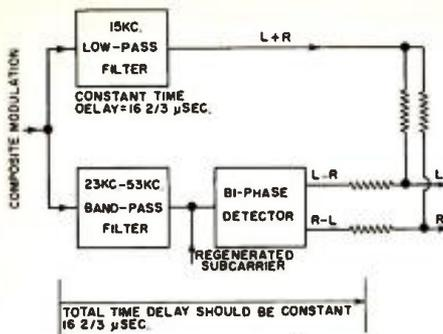

Fig. 9. Sum and difference matrix system.
To matrix properly, sum and difference signals must be kept in the correct phase relationship at all audio frequencies. Assuming the transmitter does its part of the job correctly, the receiver must separate sum from difference modulation, demodulate the difference, and then recombine the two, without introducing any time difference between the two elements (Fig. 9).
Fig. 10. Separation possibilities with arrangement of Fig. 9, using normal-type filters. (A) Theoretically correct phase and matrix adjustment, giving maximum separation at low audio frequencies. (B) Adjustment of subcarrier phase, matrixing for maximum 15-kc. separation. (C) One optimized adjustment (others are possible) to give reasonable over-all separation.